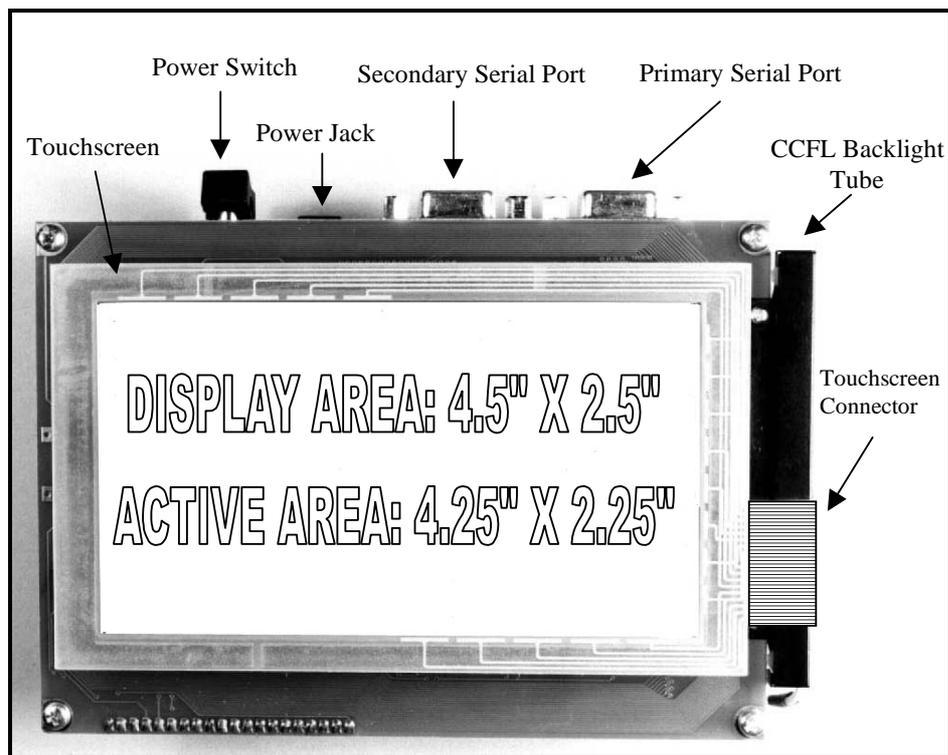

Figure 1: Top view of the SmarTouch Controller
Figures 1 and 2 show the key components of the SmarTouch Controller and the QED-Flash Board.
The important components of the SmarTouch Controller are the primary and secondary serial ports, power jack, power switch, high current connector, piezoelectric buzzer, contrast pot, and jumpers shown in Figures 1 and 2. All of these components are mounted on the Graphics Interface Board (GIB) which mounts behind the 128x240 pixel graphics display. The primary serial port can be configured for RS-232 communication up to 19,200 baud. Its 9-pin connector is located behind the upper right hand corner of the display as shown in Figure 1. The secondary serial port, which can be used for peripheral devices such as a printer or a barcode reader, has a maximum baud rate of 2,400. Its 9-pin connector is located between the primary serial port and the power jack. To enable the secondary serial port, turn dip switch 5 on the QED-Flash Board ON. In the default configuration, dip switch 5 is OFF. For more information about serial communications see Chapter 11 of the QED Hardware Manual.
2. Connect the female end of the 9-Pin serial communications cable to your computer terminal's serial communications port (typically "COM2") and the male end to the primary serial port on the SmarTouch Controller (see Figure 1).